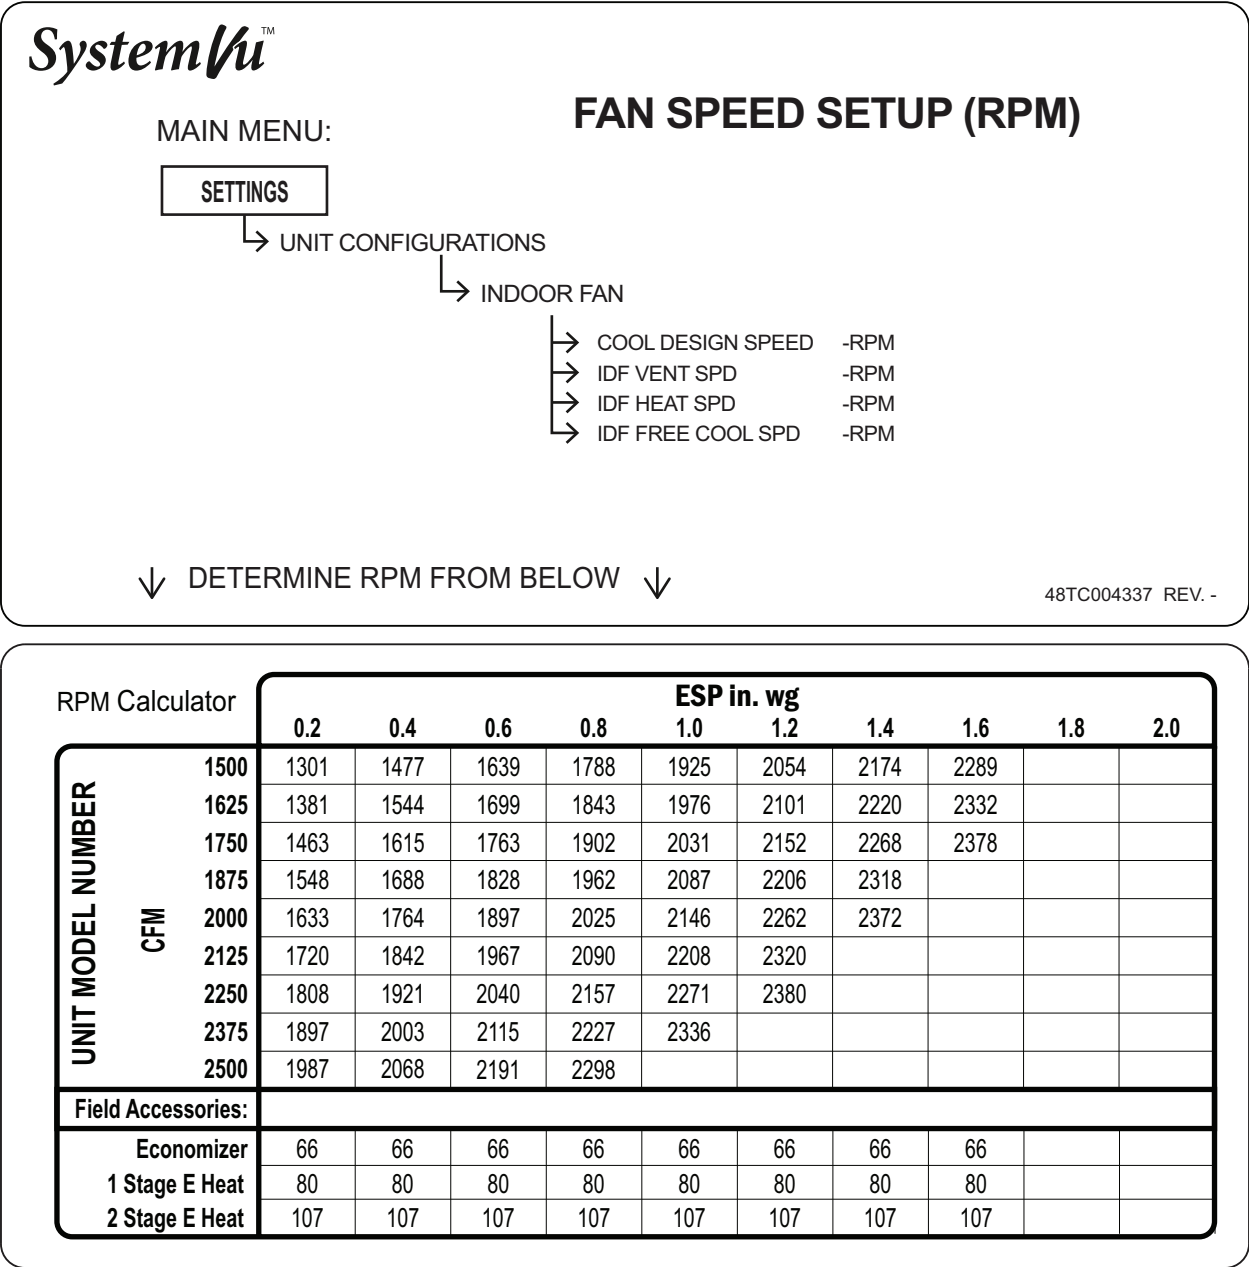

Fig. 4 — Example of Fan Speed Set Up Labels
Fan Performance tables and physical data. The specific unit’s fan performance table is printed and adhered to the control box high voltage cover. See Fig. 4 for an example fan performance table.
2. Using the chart on the Fan Speed Set Up labels (see Fig. 4), calculate the RPM from the CFM and ESP for the base unit plus any field accessories (as listed on the label).
8. Refer to the job specifications to set the following, determining the values per the RPM Calculator label (Fig. 4). Use the UP and DOWN arrow keys and the BACK key to set the values. Press ENTER after setting each value to continue to the next selection.